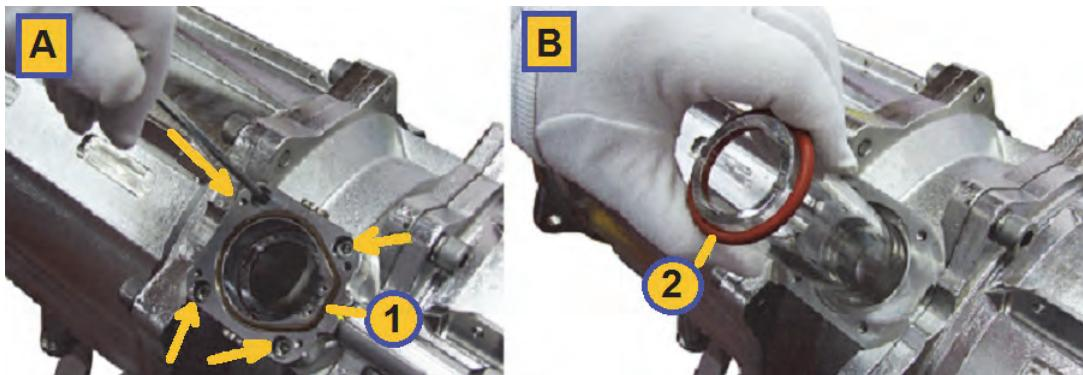

Figure 11-18: Replacing the Quartz Tube (Generic View 1)
Under normal environmental conditions, the quartz tube's rubber O-rings (as shown in **Figure 11-18** below) must be replaced once a year even if they pass visual inspection. For environments where the water temperature is above 70°C (160°F), the quartz tube's O-rings must be replaced quarterly, for which after the first year, O-rings may require replacement less frequently. For more information, consult your Atlantium representative.
- Two O-rings (See view **B** in **Figure 11-18** below)